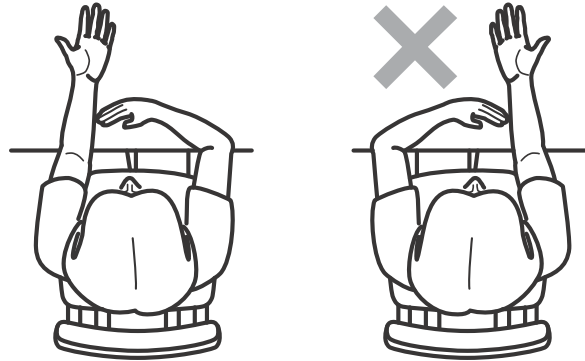

Fig. 3
8.4.3. Sit down on the chair or the armchair or on the couch. Relax, take off your watches or bracelets from the left wrist and turn back the clothes' sleeve, if necessary (Fig. 3).